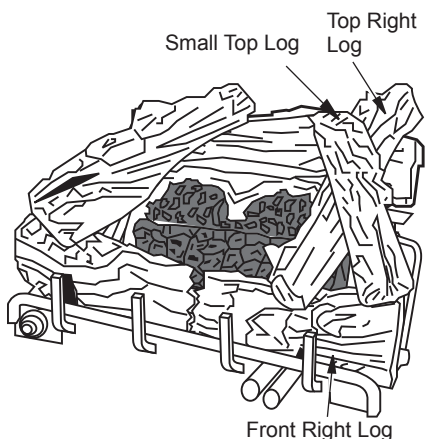

Figure 37 - Installing Log
- Place the small top right log as shown in Figure 37. The bottom of the log is shaped to fit onto the recessed areas of the top right log and the front right log. The recessed areas are painted yellow.